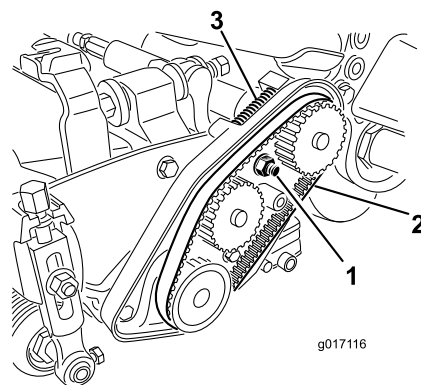

Figure 45
- A. Loosen the bearing-housing mounting nut (Figure 45).
- C. Clean any debris from inside the belt compartment and from around the compression spring (Figure 45).